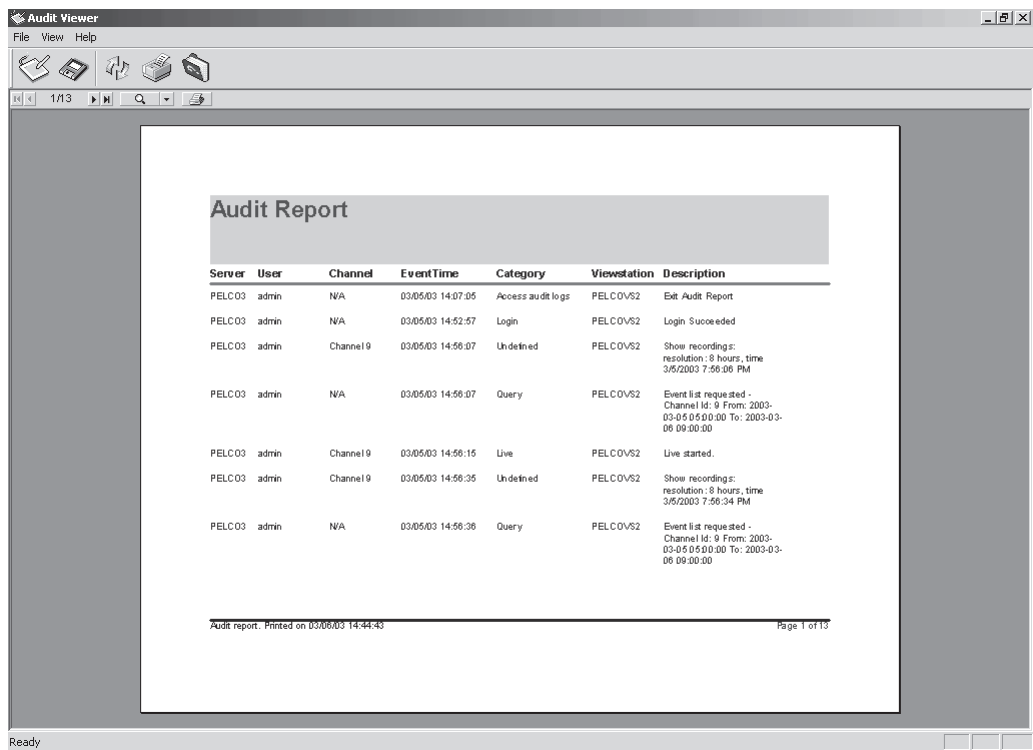

Figure 52. Sample Audit Report
16. Click Create. An example of an audit report is shown in Figure 52.